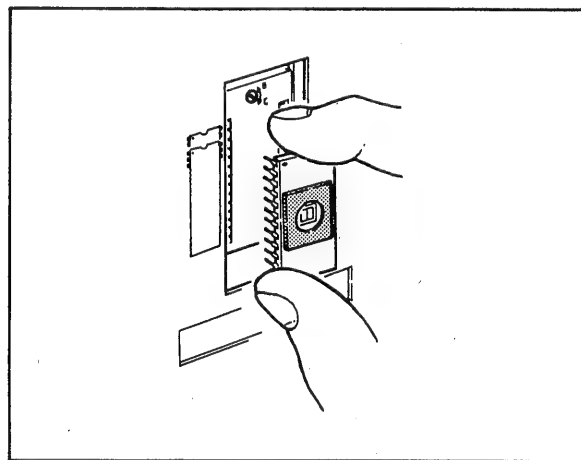

Figure 6-3-8. Removing ROM.
- Grasp the ROM manually and pull it out of the socket, being careful not to damage the pins. (See Figure 6-3-8.)
(2) Installing User ROM